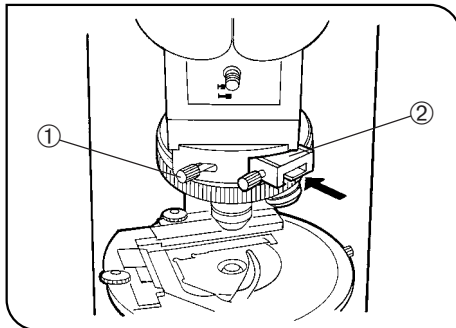

Fig. 8
**8 Mounting the Test Plate Adapter (U-TAD) (Fig. 8)**
1. Loosen the revolving nosepiece clamping knob ① and remove the dummy slider.
2. Insert the test plate adapter ② and securely tighten the clamping knob ①.